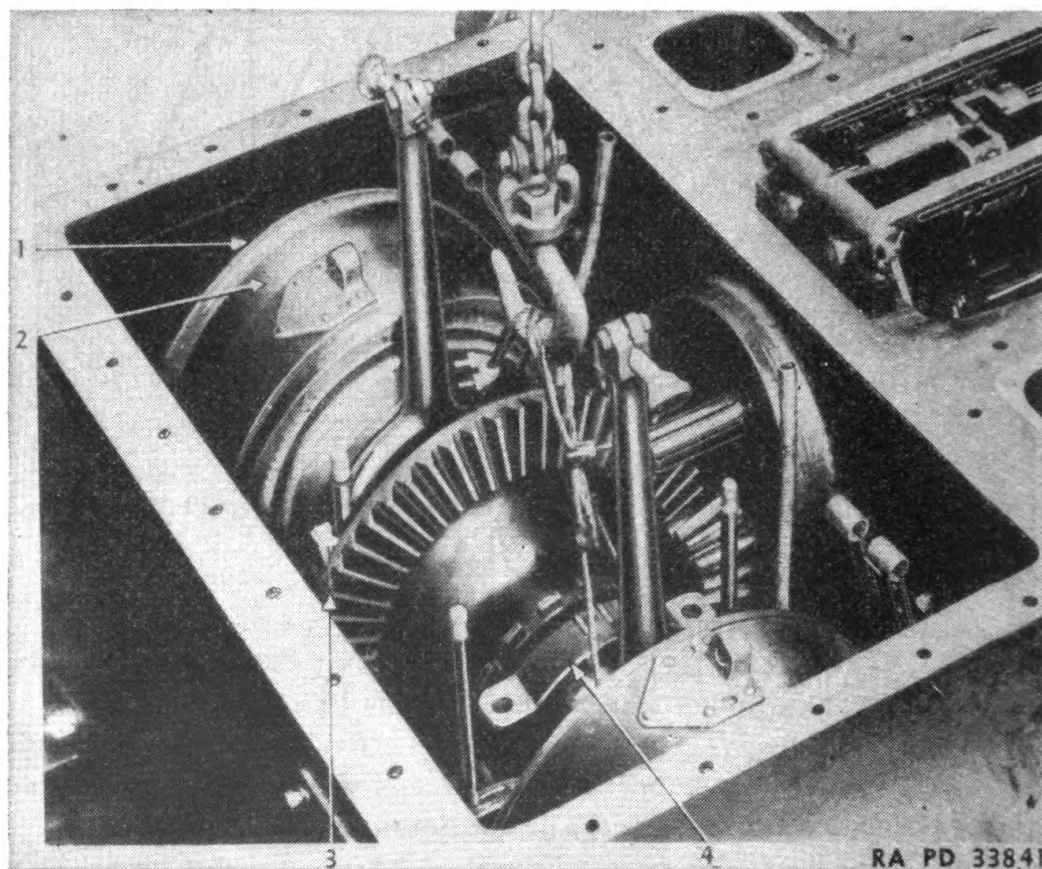

FIGURE 125.—Steering clutch and bevel gear removal.
121. General.—*a.* After removing transmission top cover as described in paragraph 119*a*(2), take off bevel gear bearing covers and bearing caps (4) (fig. 125).
(1) A hole is provided in each side of the transmission case to remove capscrews holding drum (2) to flange (1). Disconnect brake linkage. Remove capscrews and slide the drum toward bevel gear (3) for clearance.